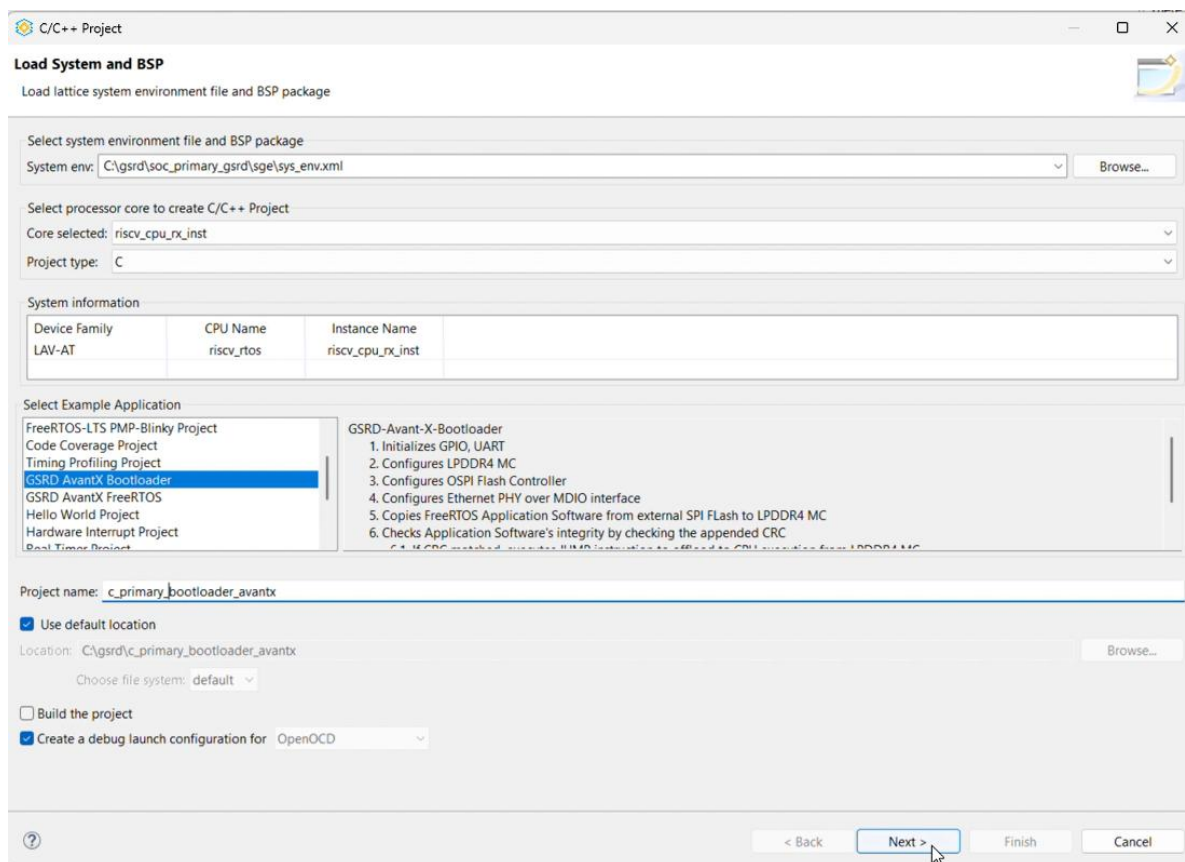

Figure 7.25. Bootloader C/C++ Selection
3. In C/C++ Project window, it automatically selects the generated *sys_env.xml* file. In the *Select Example Application* section, select the **GSRD Avant-X Bootloader** and provide a name for the bootloader as shown in Figure 7.25.